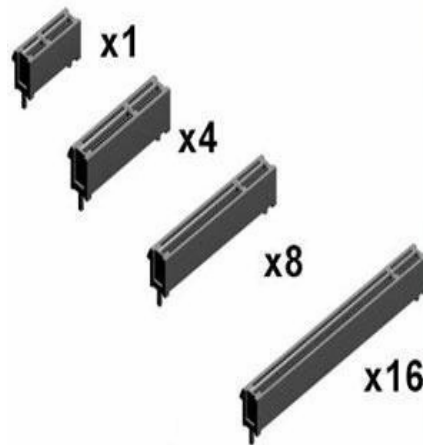

Figure 4 PCI Express slots
**PCI Express (sometimes noted as PCIe)** is a new bus type that uses the existing PCI model, but implements it in a faster, serial protocol. Because of the serial way it transmits data, the PCI Express bus slot can be different sizes depending on the throughput it supports. PCI Express slot speeds are expressed in "lanes" and are normally shown as x1, x4, x8, and x16. Each type of slot is a different length (as shown in Figure 4 on page 31) and adapter edge connectors will also be of varying lengths depending on how many lanes they require for